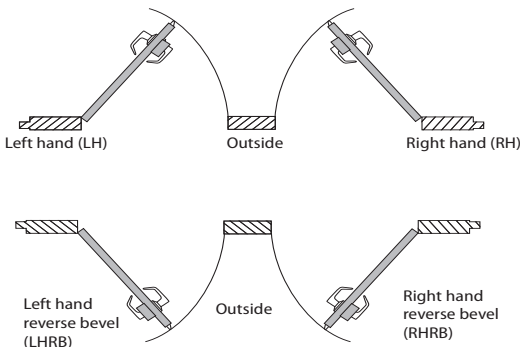

Figure 1 Door handing chart
- 2 See the table below and Figure 1 to determine which side of the door the holes will be drilled.